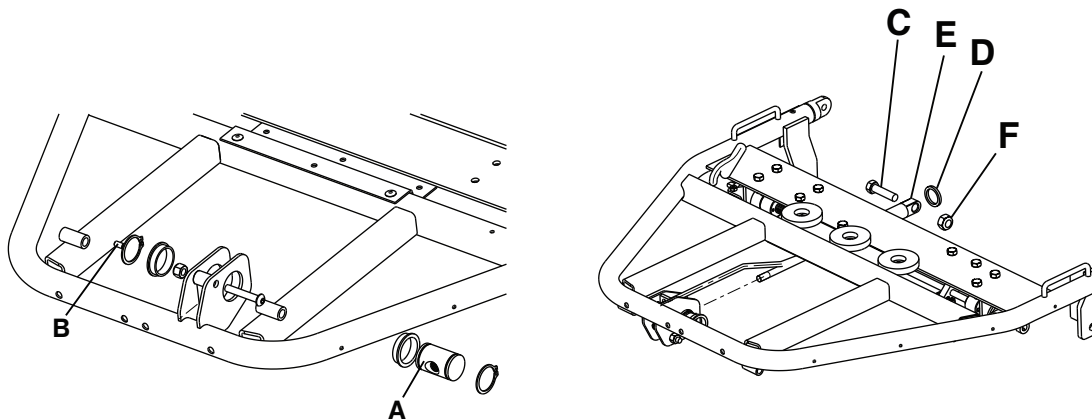

Figure 16 – Leg section cylinder replacement
7. Using a 3/32" hex wrench, remove the set screw (B), from the center of the yoke (A) (Figure 16). Save the set screw.
8. Using a 5/16" hex wrench and a 5/8" combination wrench, remove the pivot bolt (C), washer (D), and hex nut (F), that secure the cylinder (E) to the leg section frame. Save all parts.
11. Using a 5/16" hex wrench and 5/8" combination wrench, reinstall the washer (D) and hex nut (F) (removed in step 8) to secure the pivot bolt (C) in place.